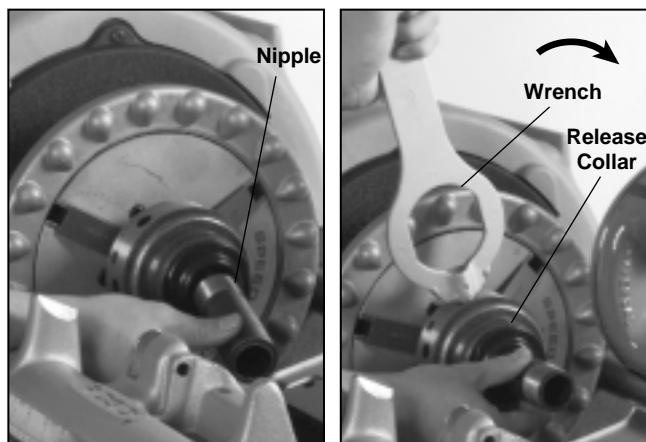

Figure 21 – Installing Unfinished Nipple and Releasing Finished Nipple with Wrench
- Screw nipple (*Figure 21*) threaded on one end into adapter by hand. Turn directional switch to ON and press down on foot switch. Ream and thread other end.
- Insert pin on end of wrench (*Figure 21*) into one of holes in nipple chuck release collar and turn. Remove threaded nipple by hand.